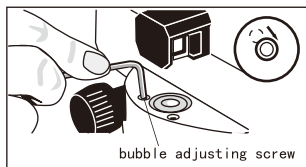

fig.9
2. Use align wrench turn the two adjustment screws till the air bubble moving to the center of circular bubble vial. (see fig.9)